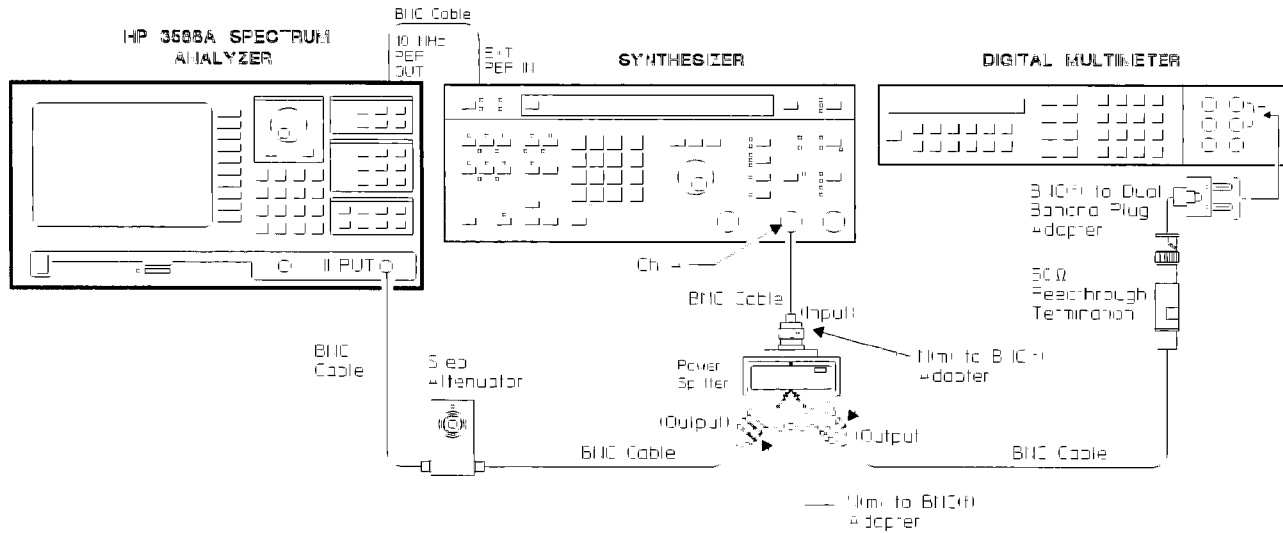

Figure 3-14. Log Scale Accuracy Setup
1. Connect the test equipment as shown in figure 3-14.